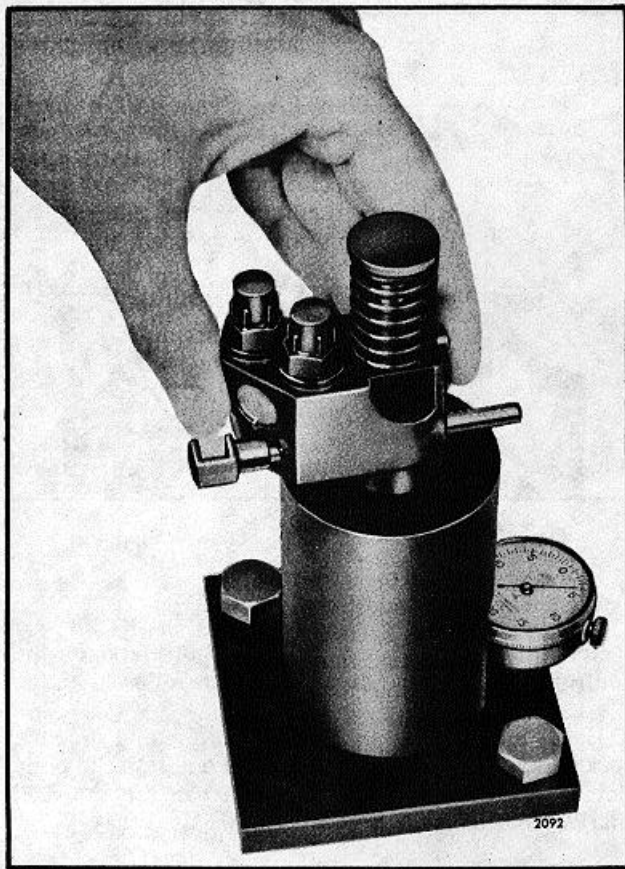

Fig. 43. Checking Injector Spray Tip Concentricity using Tool J 29584
1. Place the injector in the concentricity gage J 29584 as shown in Fig. 43 and adjust the dial indicator to zero.